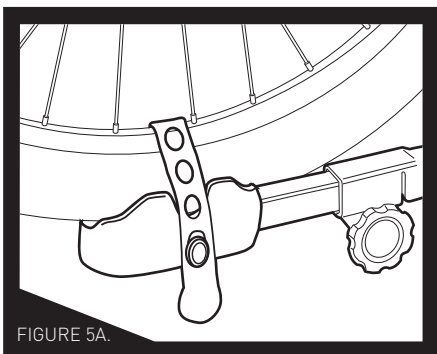

FIGURE 5A.
STEP 3: Place the first bicycle with one wheel in metal wheel tray and other properly centered on plastic wheel cup. Secure wheel to Plastic Wheel Cup using the rubber tension strap (Fig. 5A). Other wheel should be fully secure to the metal wheel tray using the strap and buckle as shown in drawing below.